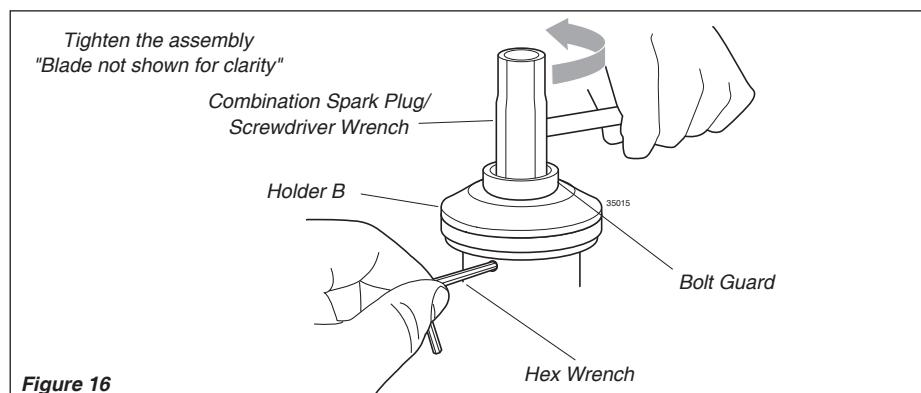

Figure 16
- Lock Holder A to the gearcase by inserting the long end of the hex wrench through both holes as done in step 1 and tighten the shaft bolt securely with the combination spark plug/screwdriver wrench. See Figure 16.